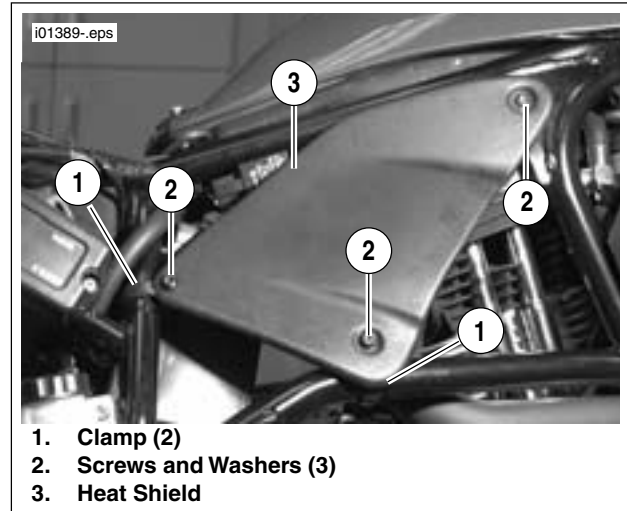

Figure 2-106. Frame Heat Shield
2. See Figure 2-106. Remove three TORX screws and washers (2) and locknuts.
3. Remove frame heat shield (3).
4. If necessary, remove clamps (1).
1. See Figure 2-106. If removed, replace clamps (1).
2. Install heat shield (3) with screws (Torx) and washers (2) and locknuts.